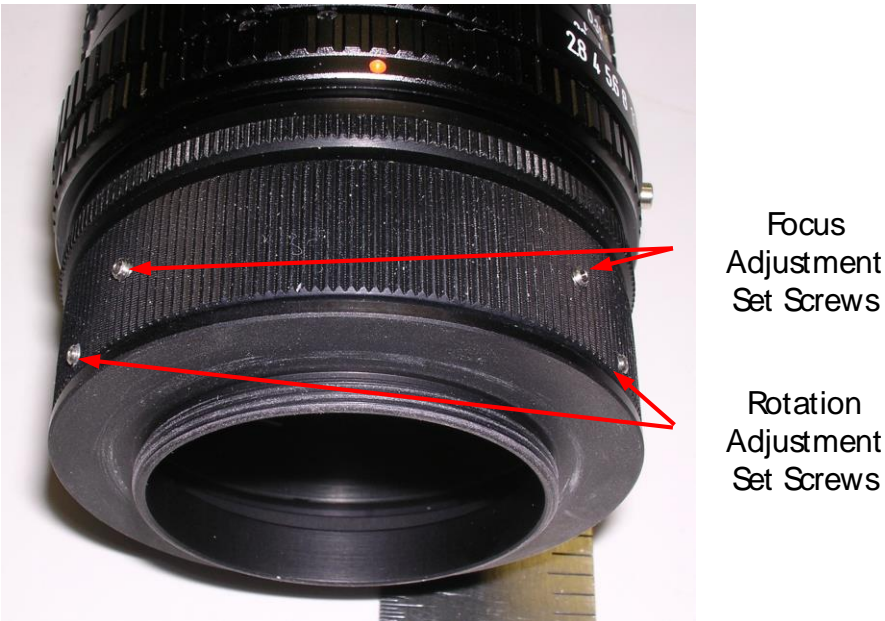

Figure 6 Location of lens adapter focus and rotation adjustment set screws.
6. Remove the camera's protective covering from the front plate and gently thread the adapter fully into the plate until the piece begins to seat. Using finger pressure on the outer rim of the M42 panel piece only (threaded piece shown in Figure 6), seat it firmly into the camera. If a two-point spanner wrench is available, remove the lens and look through the adapter
7. Locate the set screws on the lens adapter barrel used for locking the rotation and focus adjustments. There are three rotation locking sets screws on the knurled collar ring closest to the camera plate set 120 degrees apart and two focus adjustment locking set screws further away from the camera set 90 degrees apart. The set screws locations are shown in Figure 6.